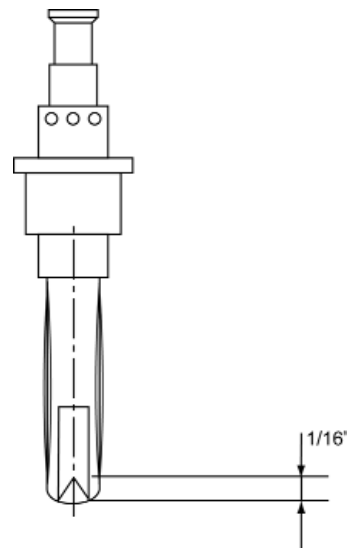

Fig. 6
1. Check nozzle and electrode often for excessive wear due to cutting. The electrode will develop a pit in the center of it. When the pit reaches approximately 1/16" deep, the electrode should be replaced. (See Fig. 6)